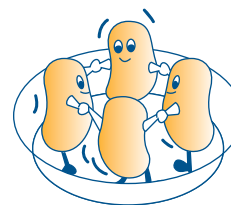

fig. 9
- 4) If many portions of the same food are cooked, for example boiled potatoes, **arrange them in a ring** around the dish to obtain even cooking (fig. 9).